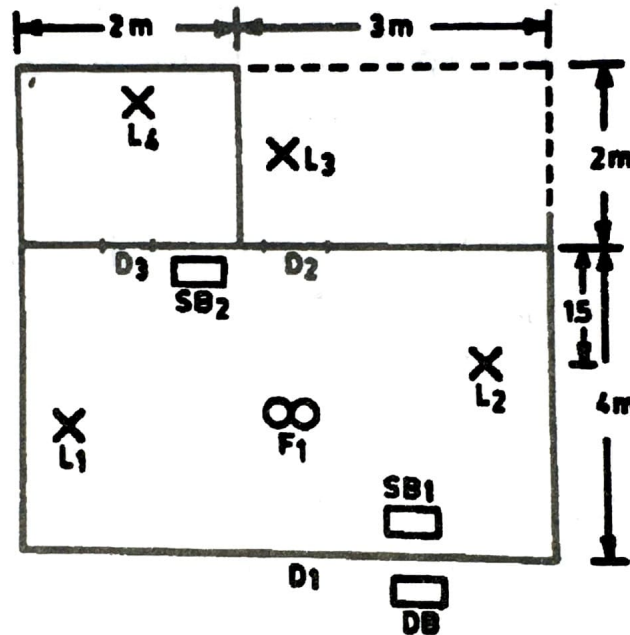

Figure-1
2. (a) What do you understand by tariff? Describe the desirable characteristics of a tariff. Explain block rate tariff and two part tariff. (8) CO2
- (b) Explain with neat diagram the construction and working of the miniature circuit breaker (MCB). What are the disadvantages of ELCB? (7) CO2
3. (a) Define electrical wiring? Name various types of electrical wiring system. Describe general rules for wiring. (7) CO1
- (b) Figure-1 shows the plan of a small flat. The flat is to be provided with electrical connections. The positions of light and fan points and switchboards have been shown in the figure.
- (iii) Estimate the quantity of material for underground PVC conduit wiring system. (8) CO1
4. (a) State and explain the laws of illumination. (5) CO3
- (b) A room 50 ft. × 20 ft. is illuminated by twenty 200 watt lamps. The M.S.C.P. of each lamp is 250. Assuming a depreciation factor of 1.2 and utilization factor 0.6, find the average illumination produced on the floor. (5) CO3
- (c) With a suitable diagram explain construction and working of compact fluorescent lamp (CFL). (5) CO2
5. (a) State the reason for establishing substations. Draw and explain the typical 11 kV/400 V indoor substation. Give the comparison of outdoor and indoor substations. (8) CO1
- (b) What is lightning? What are the harmful effects of lightning? Describe commonly used devices for protection against lightning surges. (7) CO2
6. (a) Describe main parts of DG set. What are the factors that need to be considered for DG set selection? List all the advantages of using a DG set compared to other types of power generation. (8) CO3
- (b) Define programmable logic controllers (PLCs). What are the main components in PLC? What are the advantages of PLCs? (7) CO2